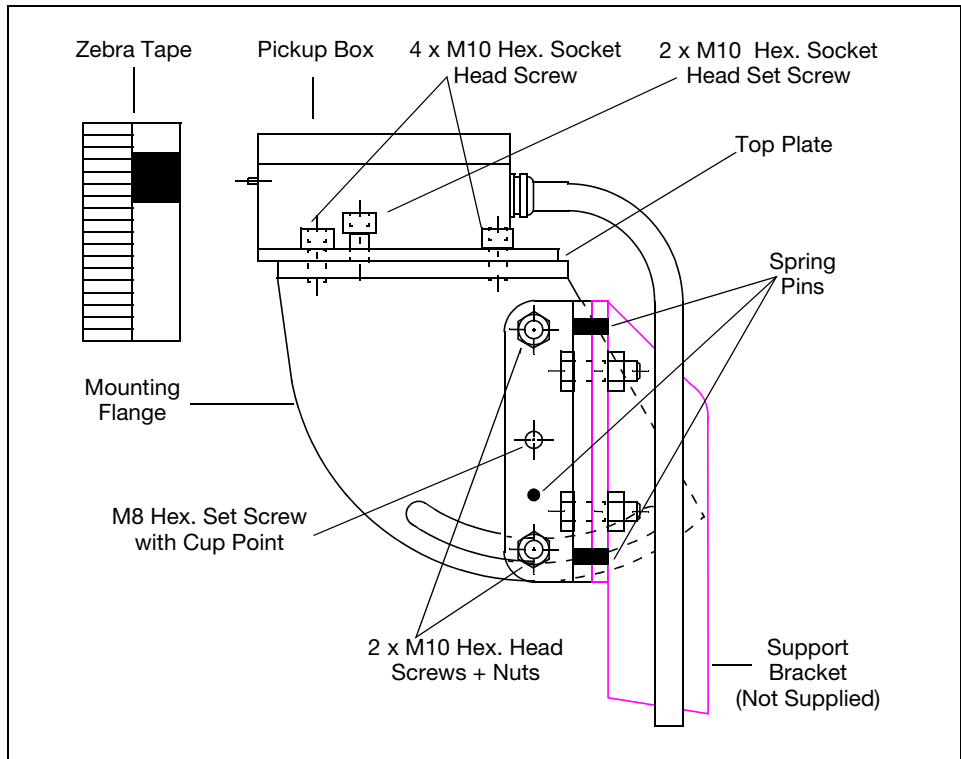

Fig. A-7 Mounting of LE-Pickup on Adjustable Bracket. Certain parts may differ in design and appearance to suit the application
3. Check that the pickup is firmly supported and is properly aligned with respect to the stripes on the zebra tape. There should be a clearance of 2 mm between the tips of the pickups and the zebra tape. See Fig. A-7 and A-8 respectively.